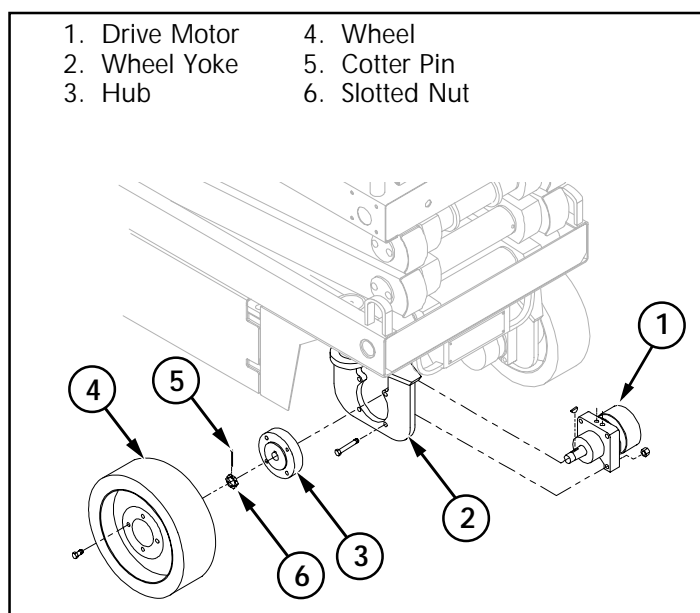

Figure 4-13: Drive Motor Installation
4.9 Hydraulic Drive Motors and Hubs (Figure 4-13)